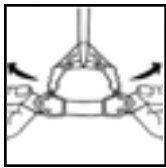

FIGURE 11
1. **Horizontal Adjustment:** While the helmet is on your head, re-adjust the tension of the Fusion Fit System by pulling forward on the elastic side strap tabs until you feel a slight pressure at the back of your head, and the front pads push firmly, but comfortably against your forehead. Secure the straps in place by using the hook and loop fasteners on the tabs (Figure 11).